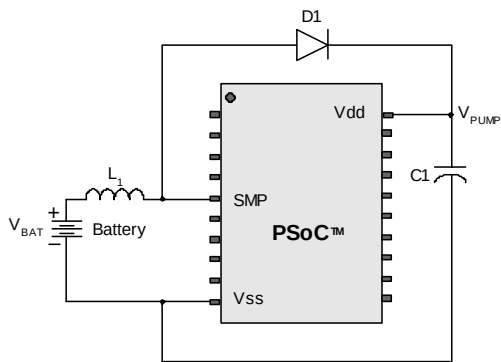

Figure 3-2. Basic Switch Mode Pump Circuit
a.  $L_1 = 2 \mu\text{H}$  inductor,  $C_1 = 10 \mu\text{F}$  capacitor,  $D_1 = \text{Schottky diode}$ . See Figure 3-2.